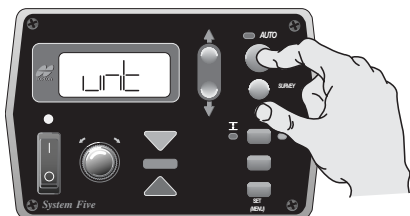

Figure 16. Selecting Performance Menu Items
3. Press the Auto button to select a menu item (Figure 16).